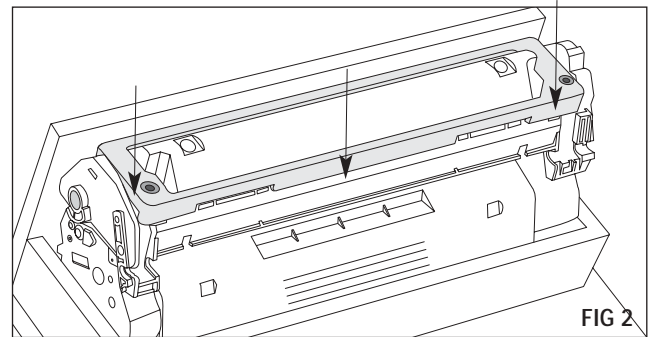

FIG 2
2. Place the fixture on the cartridge as shown (FIG 2).